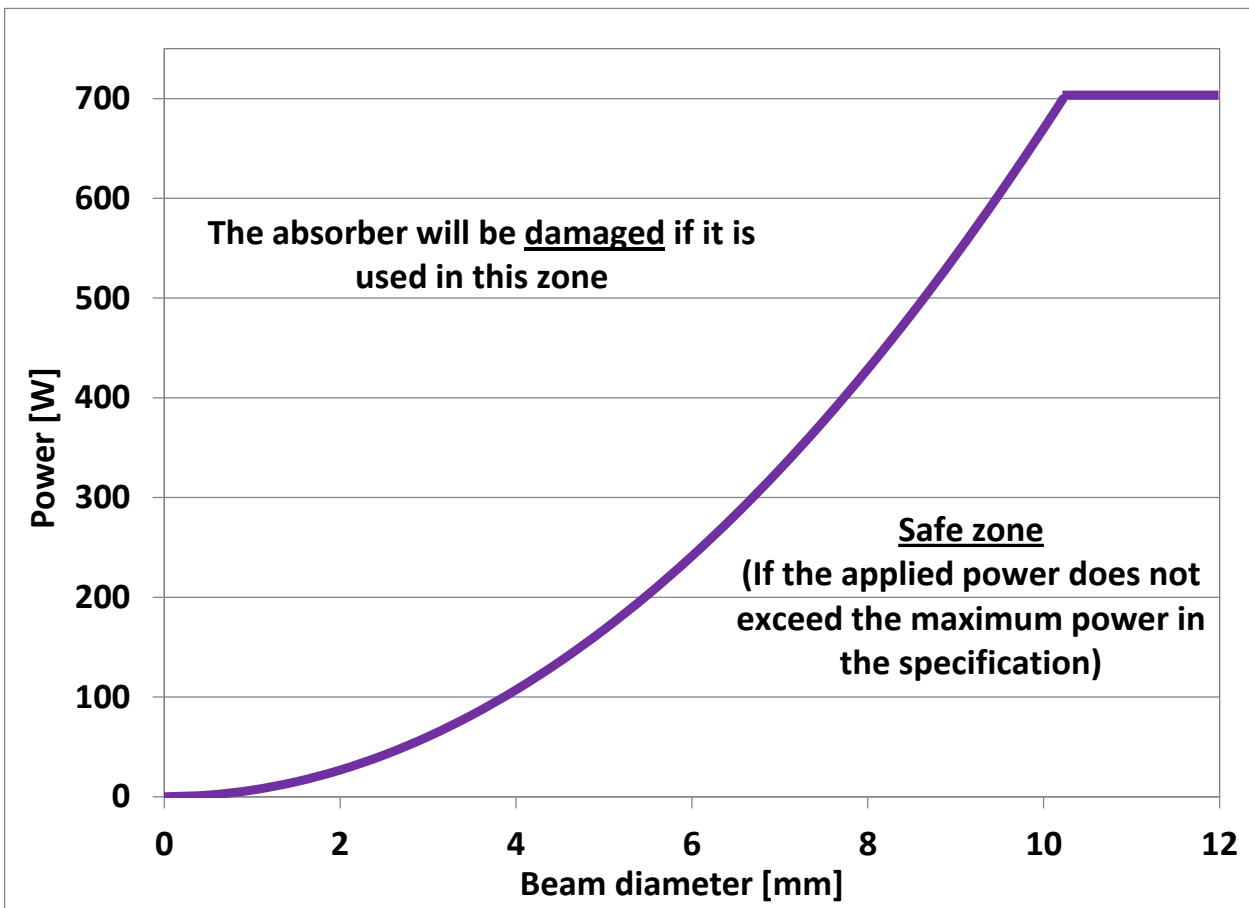

FIG. 1-10 MINIMUM BEAM SIZES FOR UP WITH H-TYPE ABSORBER AT 1.064 μ M.
1. Required specifications for customer-supplied back module are given in Fig 1-10 through 1-12. Note that tapped holes must be electrically conductive, and that there has to be at least bare spots to allow electrical contact with detector (see point 5.).